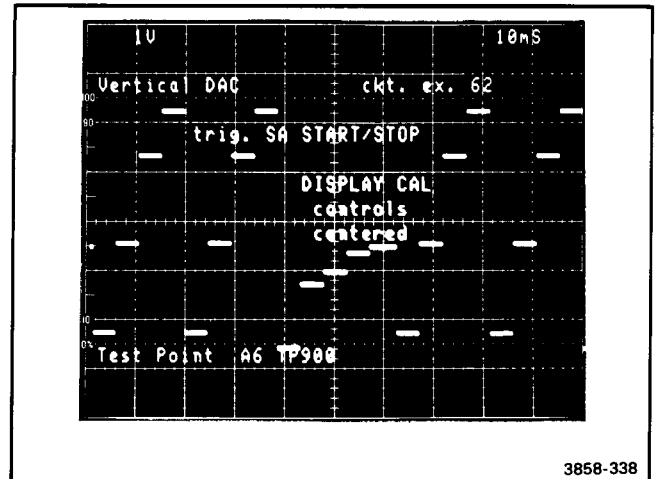

Figure 3-18. Waveform for Vertical DAC test.
34) Vertical DAC (62). If this test fails, place the Display Board on an extender and run circuit exercise 62. Use an oscilloscope to troubleshoot the Vertical DAC. Waveform Figure 3-18 is a typical output of this test. The SA Start/Stop line provides a stable oscilloscope trigger while using this test for troubleshooting.